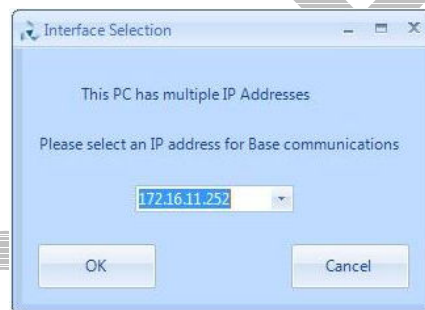

Figure 12. Interface Selection screen.
9. If the PC has more than one IP address or Network Connection, when the IP Configuration Tool is started, the Interface Selection screen will be displayed (see **Figure 12** below).